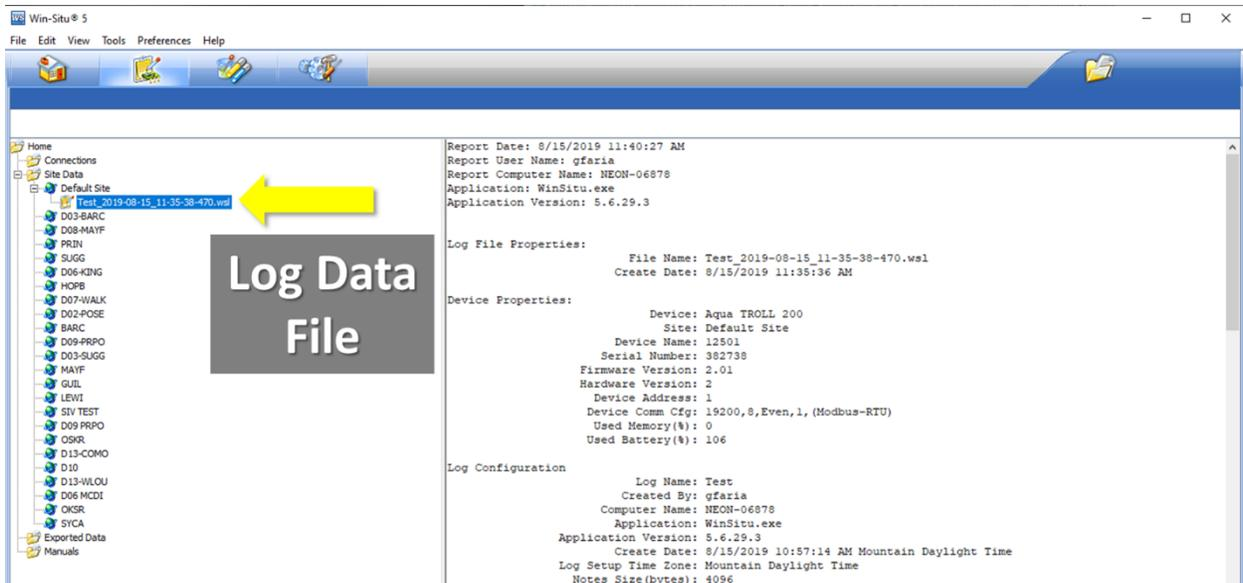
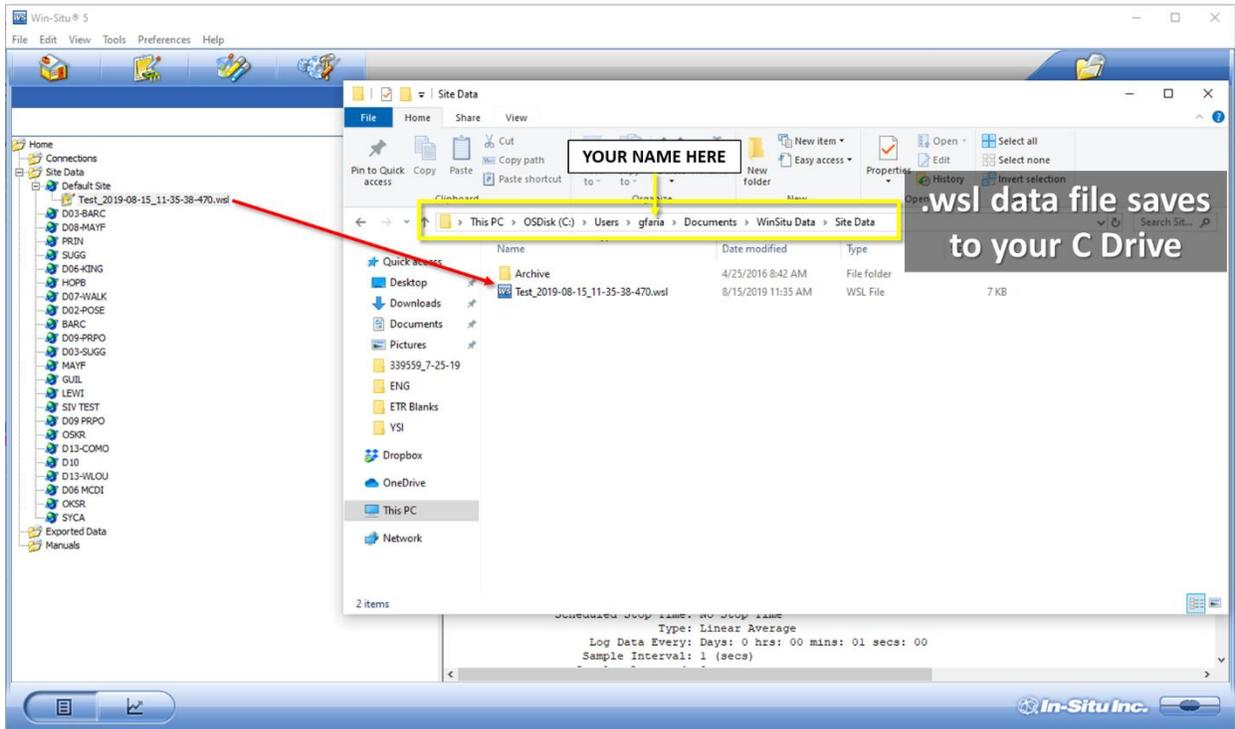

Figure 29. The Log File will be listed under your Site as a .wsl File
Figure 30. Data Saves to your C Drive under a "WinSitu Data" Folder
- This opens up a data view and your downloaded log file will be listed under your site as a .wsl (windows subsystem for Linux) file (Figure 29). This data saves to your C Drive under a WinSitu Data folder (Figure 30).